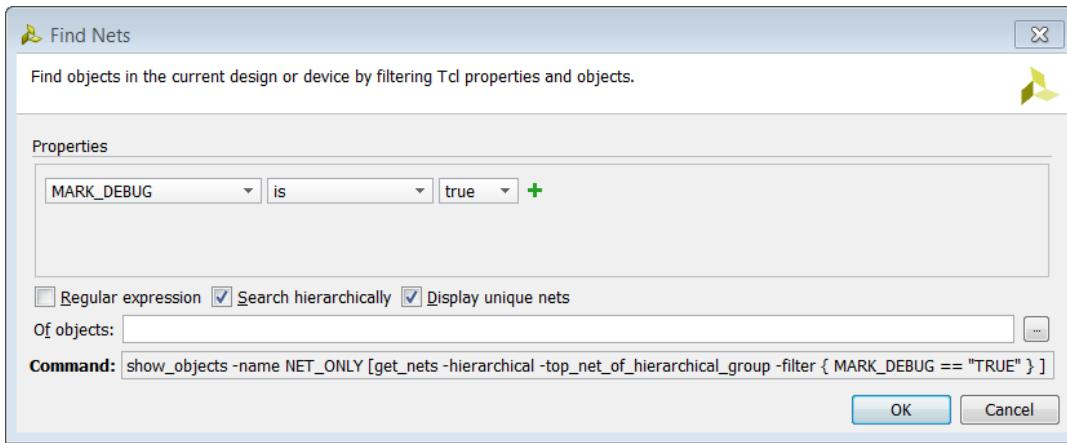

Figure 66: Find Nets with MARK_DEBUG Attribute
5. In the find Nets dialog box, shown in Figure 66, change the Properties to select **MARK_DEBUG** from the first drop-down list. This will show all the nets that have the **MARK_DEBUG** attribute set.